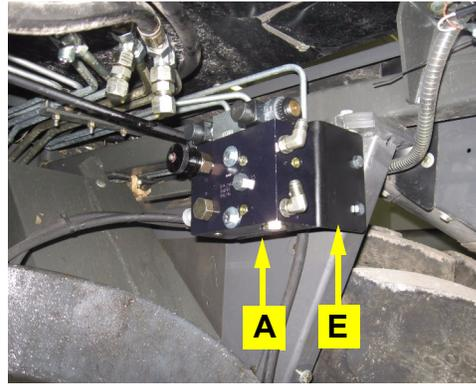

Figure 2c: Mounted automated steering block
- c. Use the provided mounting hardware **F** to attach bracket **E** to the mounting location. Attach the automated steering block **A**, as prepared in step 1, to the bracket using hardware **G** (Figure 2c).